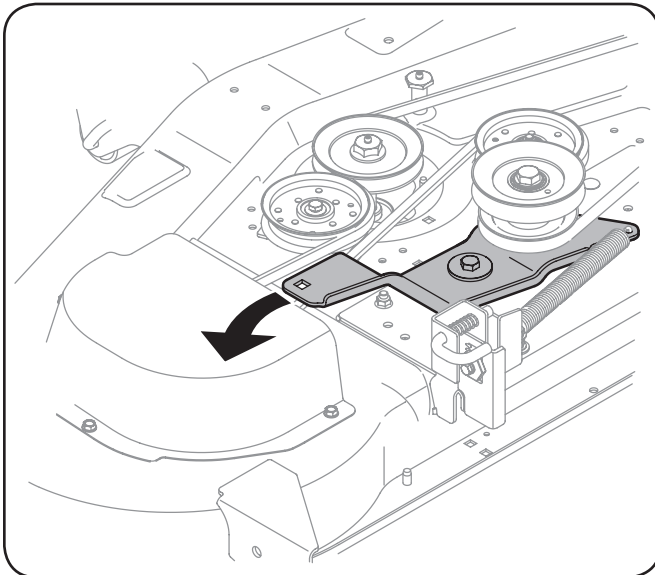

Figure 2-5
4. Pivot the wrench rearward to move the deck drive pulley forward. See Fig. 2-5